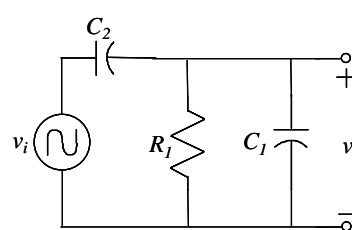

Figure 5.
- D. Repeat part B for the circuit of Figure 5 but use an input voltage sinusoidal wave with 1 volt peak-to-peak and 1kHz frequency.